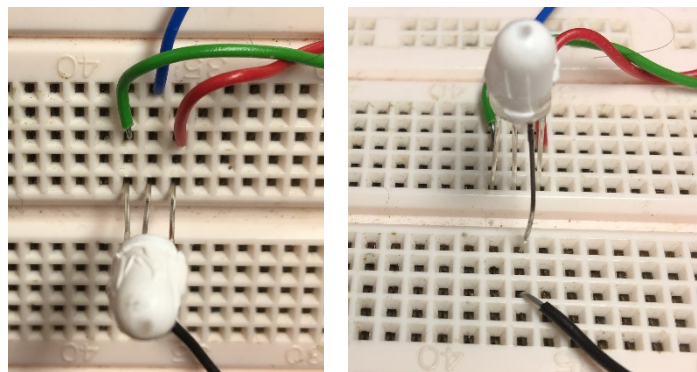

Figure 3: Example of how to insert the RGB LED Lamp into the breadboard.
- 2) You can bend the common cathode pin (longest pin) away from the other 3 pins, so that the 3 RGB anodes are on the top half of the breadboard, while the common cathode is on the bottom half (see Figure 3 below). **Note: the pin sequence is RGB, not RGB.**